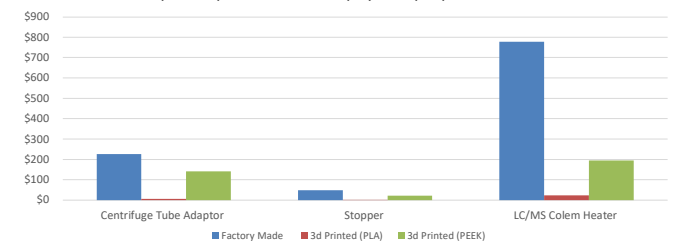

Figure 14: Cost Visitation of Factory Parts vs Analogous 3D Printed Parts
- By 3D printing parts it is possible to cut projects time delays that are caused by waiting for important components to arrive after they are ordered as can be seen in (Figure 14).